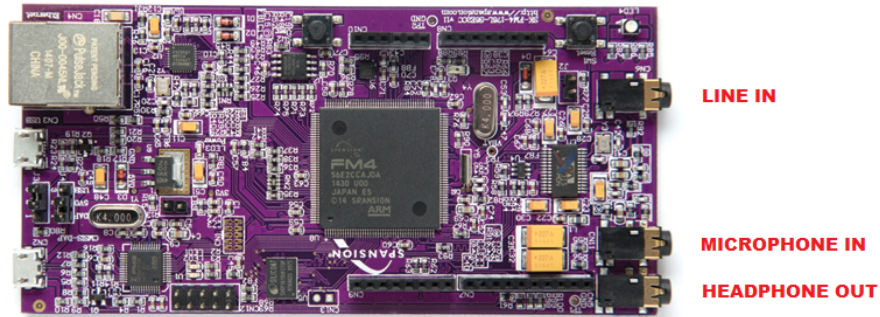

Figure 8: Audio connections on Cypress FM4 board.
5. Plug headphones and a microphone into the corresponding sockets on the FM4 board, as shown in Figure 8